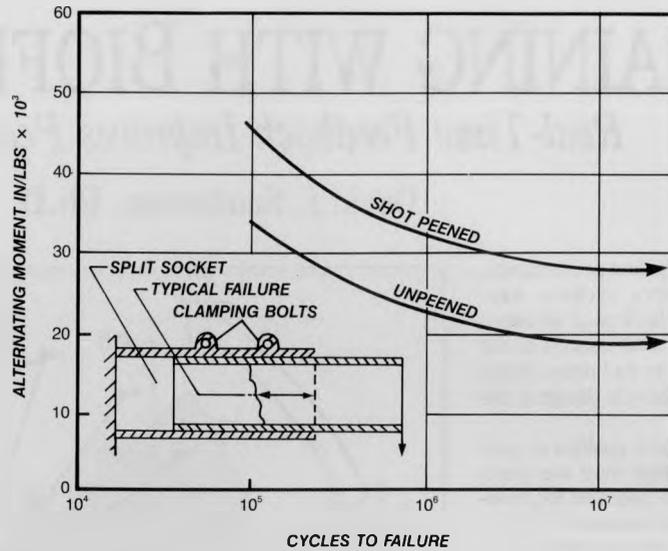

FIGURE 3: S/N curve for a 4140 steel clamped joint.²
Since its inception in the 1940s, shot peening has been an effective tool in prolonging fatigue life of various materials. Some aluminum alloys have experienced fatigue strength increases of up to 34%, while some steel alloys have shown increases up to 87%.¹ The actual improvements in specific applications and with specific alloys can vary widely and depend on properly researched procedure. Typical S/N (fatigue failure) curves for 4140 steel and 7075 aluminum both before and after shot peening are shown in FIGURES 3 and 4.
FIGURE 3 shows the mean resultant force applied each day over the whole training period for the control and experimental groups. The pre-test evaluation occurred on Day 0. These data show the rate at which both groups reduced the pedal forces. By the end of the third day the experimental group had reduced the pedal forces to close to the final values. After that, the pedal forces remained nearly constant for the remainder of the 10 days. Even though the forces were reduced, the control group showed only a gradual change over the 10 days.
■ FIGURE 3: Mean resultant forces in the recovery sector averaged over the left and right legs for the control and experimental group over the whole testing period. The pre-test scores are plotted as day 0.